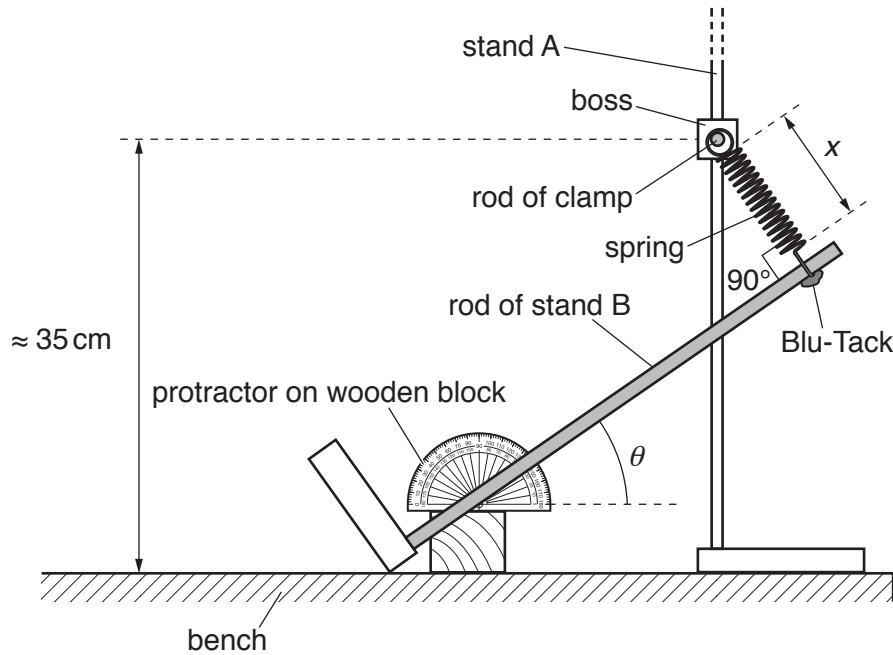

Fig. 1.2
- (b) • Set up the apparatus as shown in Fig. 1.2.